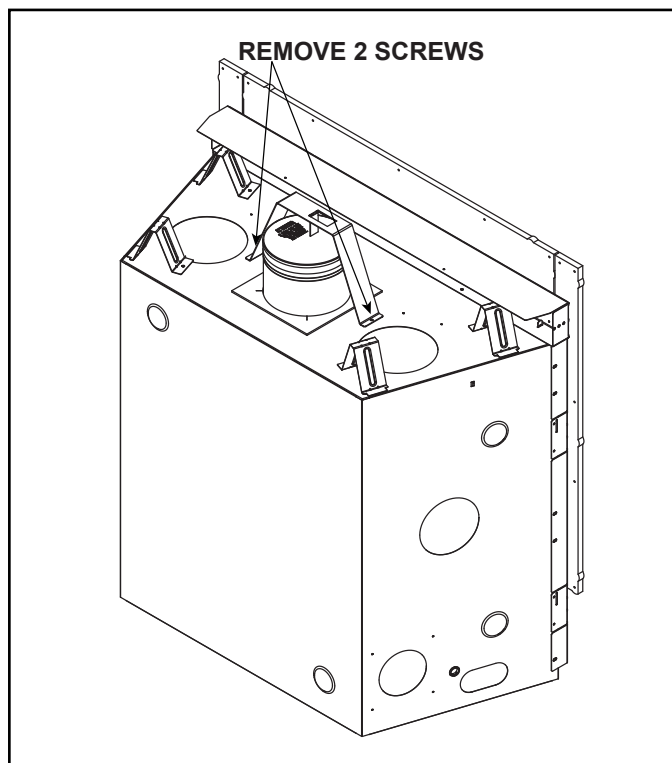

Figure 6.3 COSMO32-IFT-B - Shipping Support in Shipping Position
1. Remove two screws to remove shipping support. Discard shipping support. See Figure 6.3.